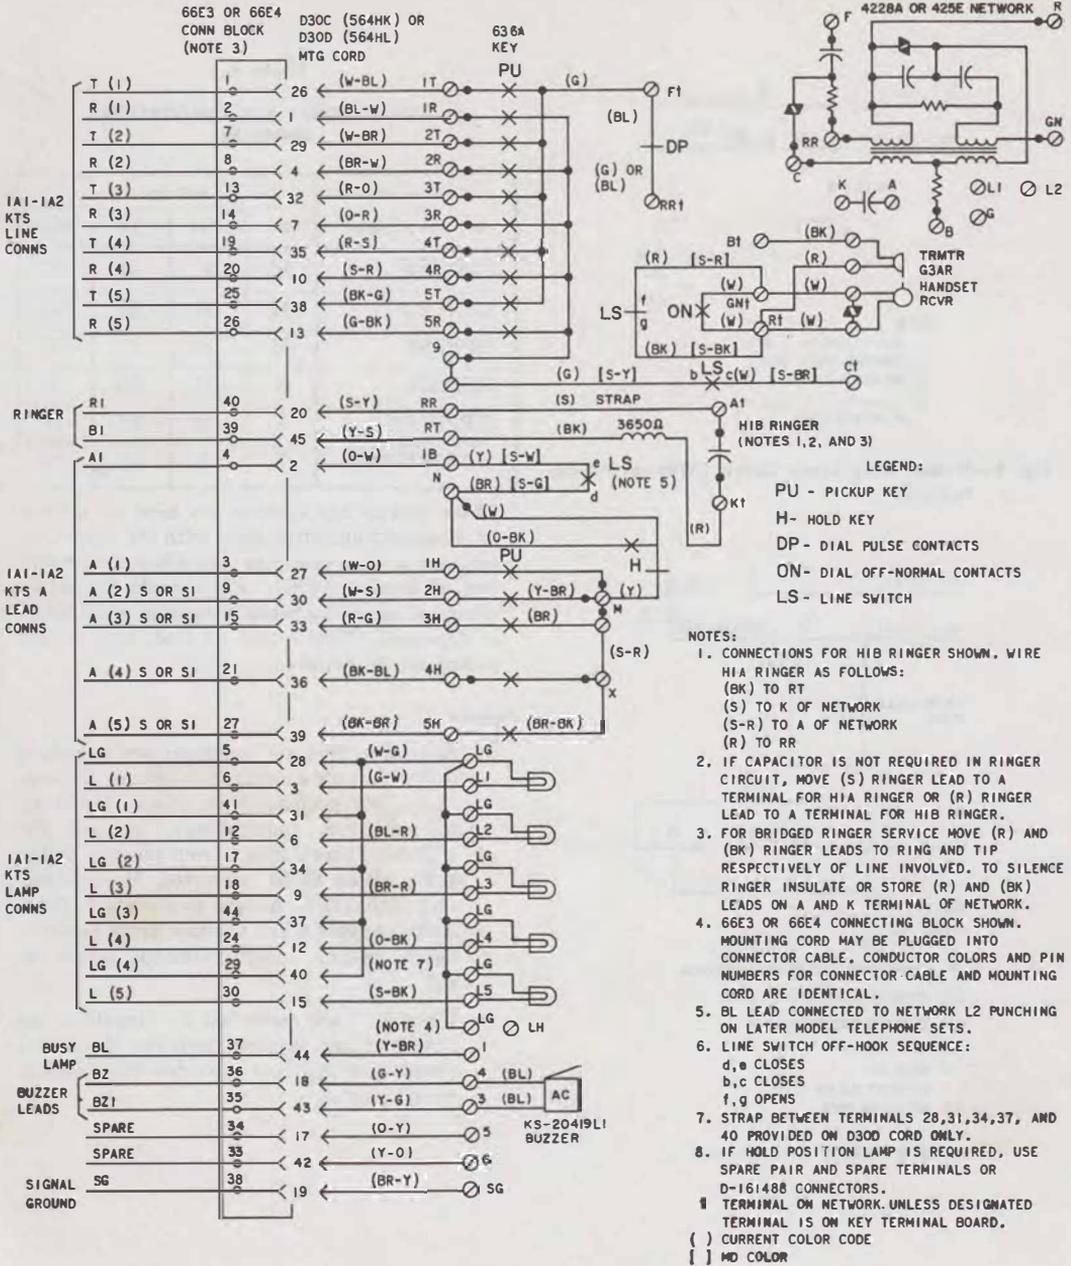

Fig. 3—564HK (MD) and 564HL Telephone Set, Connections
**3.04** Red and black ringer leads are factory-wired to terminals RR and RT. Refer to notes in Fig. 3 for ringer connections when bridged ringing on a particular line is desired.